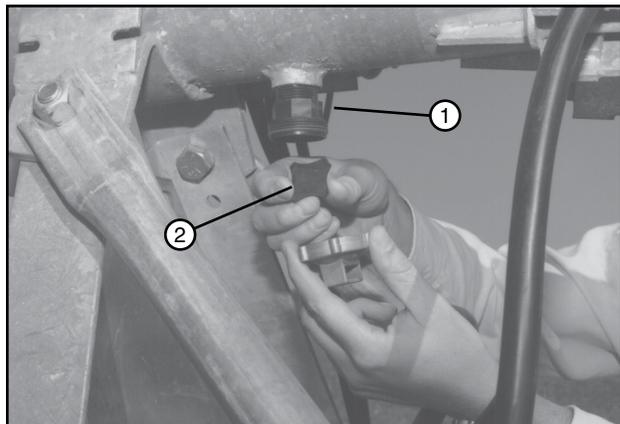

Figure 52-1 1. Pipe Drain
2. Remove the pipe drains at each drive unit tower. Clean sand and foreign particles from these drains. Turn the rubber drain seal over when reinstalling. See figure 52-1.